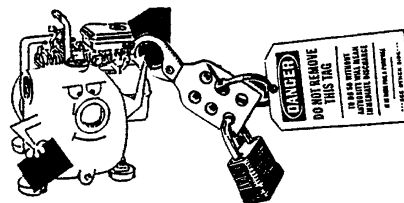

FIG. 11
• **If an unsafe condition cannot be remedied immediately, notify your supervisor and tagout/lockout** the pump on the start switch and/or appropriate, prominent location. (FIG. 11)
BEFORE ANY maintenance **work** is to be done, a LOCKOUT/TAGOUT standard device and procedure should be implemented. Prior to removal of LOCKOUT/TAGOUT, the equipment must be fully operational and all personnel accounted for. Except in cases of emergency, the removal of the LOCKOUT/TAGOUT should be done **ONLY** by the initiating person prior to the return to start-up (see page 12, Fig. 11).
NEVER perform any work on the equipment unless authorized to do so. (FIG. 11) Before performing any maintenance or repair work, consult the manufacturer's instruction manual for recommended procedures.